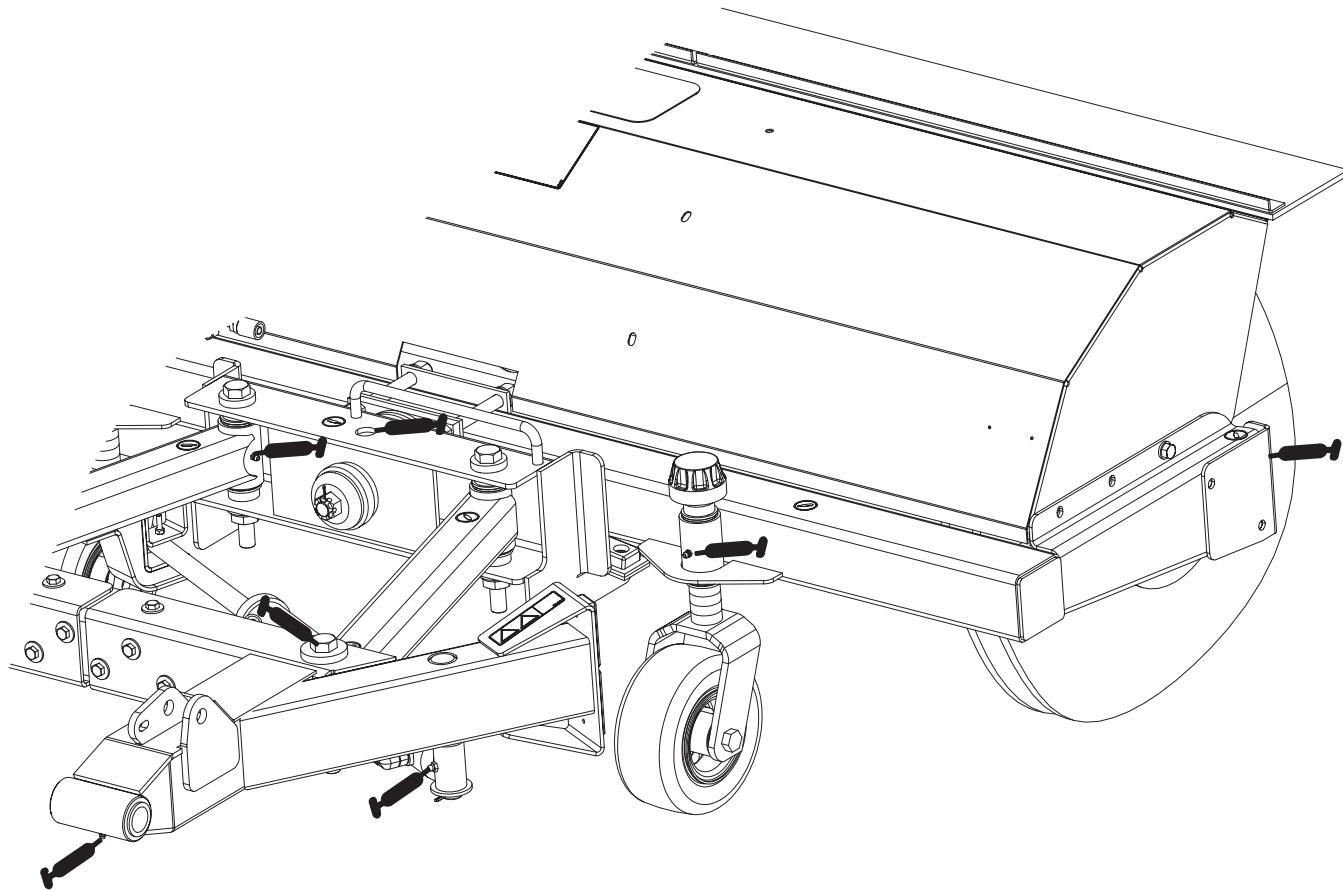

Figure 19
The rotary brush has (12) fittings that must be lubricated (Fig. 19).
- Castor shaft bushings (2)
- Axle shaft bearings (2)
- Right and left lift arms (2)
- Right and left brush arms (4)
- Pivot pin (1)
- Cylinder pivot (1)